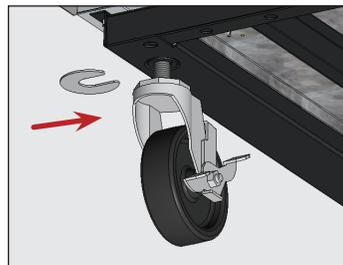

Fig. 6. Insert the castor shim(s). be sure to tighten the castor stem.
5. On the low end of the appliance, loosen the castor bolt enough to slide provided castor shims between the castor bearing and the bottom rail of the appliance. See fig. 6.
6. Install the desired number of shims. See fig. 6.